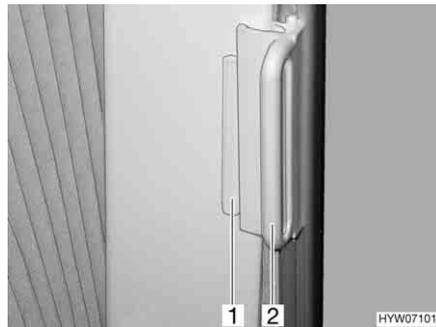

Fig. 119 Roman shade, driver's cabin window
- Grasp the handle (Fig. 119,2) of the Roman shades and draw carefully until the magnetic catch keeps the Roman shades closed.
- Push the handle (Fig. 119,2) onto the cap (Fig. 119,1). The Roman shade is secured.